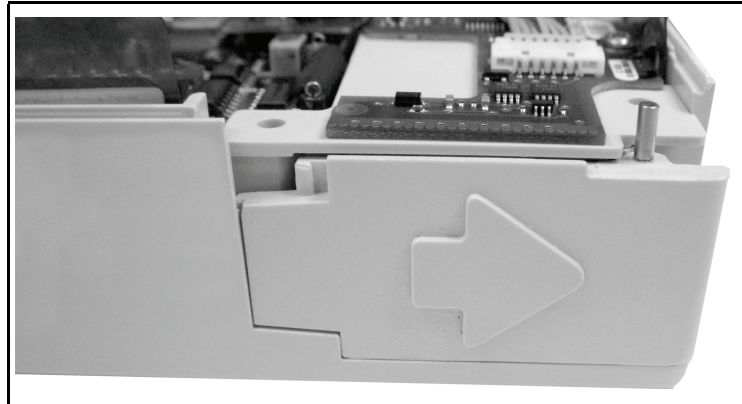

Figure 6-29. Battery Door Installation
1. Place the Battery Door (p/n B069620008) into its position on the Front Case as shown in Figure 6-29, with the pin of the door in the slot of the Front Case.